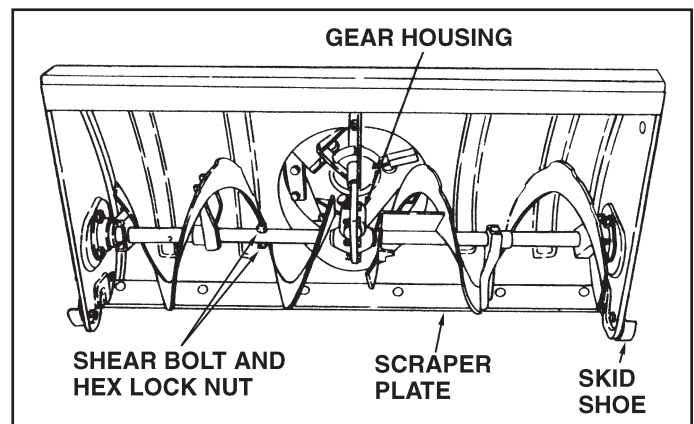

FIGURE 60
- If the augers will not turn, check to see if the shear bolts have sheared. See figure 60. Two replacement shear bolts and nylock nuts have been provided with the snow thrower. For future use order part number 710-0890A shear bolt and number 47810 nylock nut.